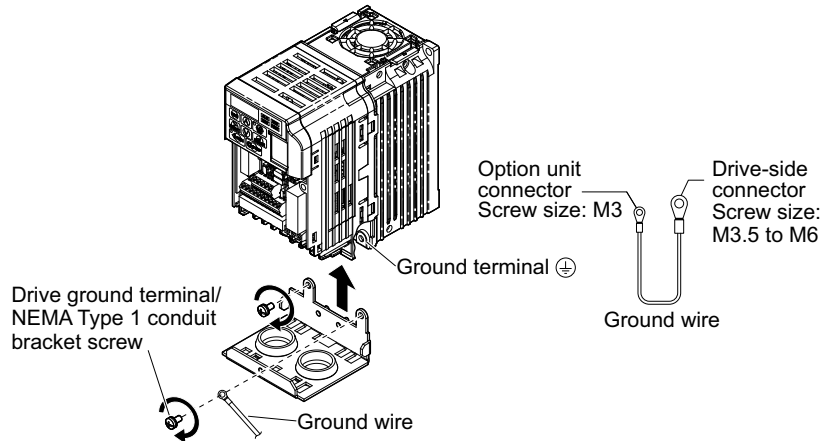

Figure 11 Reattach the NEMA Type 1 Conduit Bracket and Connect the Ground Wire for models CIMR-V□BA0001F to BA0003F, 2A0001F to 2A0006F
- On NEMA Type 1 enclosure models (CIMR-V□BA0001F to BA0003F, 2A0001F to 2A0006F), the screw for the drive ground terminal also acts as one of the screws that attaches the NEMA Type 1 conduit bracket to the drive. Reattach the NEMA Type 1 conduit bracket according to **Figure 11** and connect the drive-side of the ground wire to the drive ground terminal.